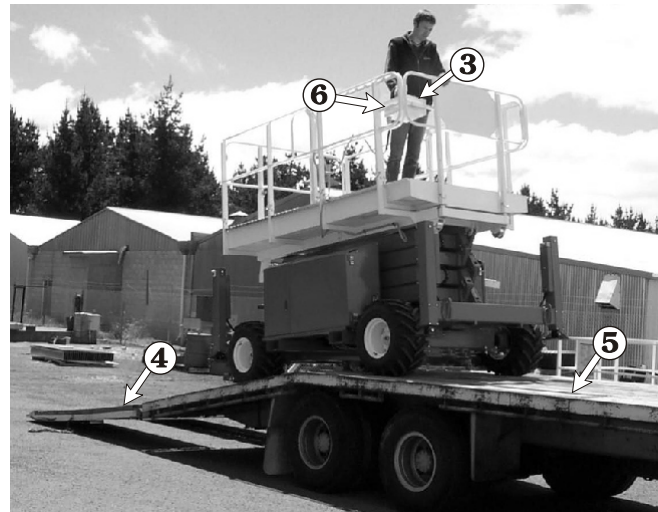

Figure 10.4
6. Use the joystick controller **3** to slowly drive the S3370RT / S2770RT straight onto the ramp **4** and trailer **5** (see Figure 10.4).
7. When the S3370RT / S2770RT is in place on the trailer, push the **Emergency Stop** switch **6** (see Figure 10.4) in (OFF) at the platform control box.